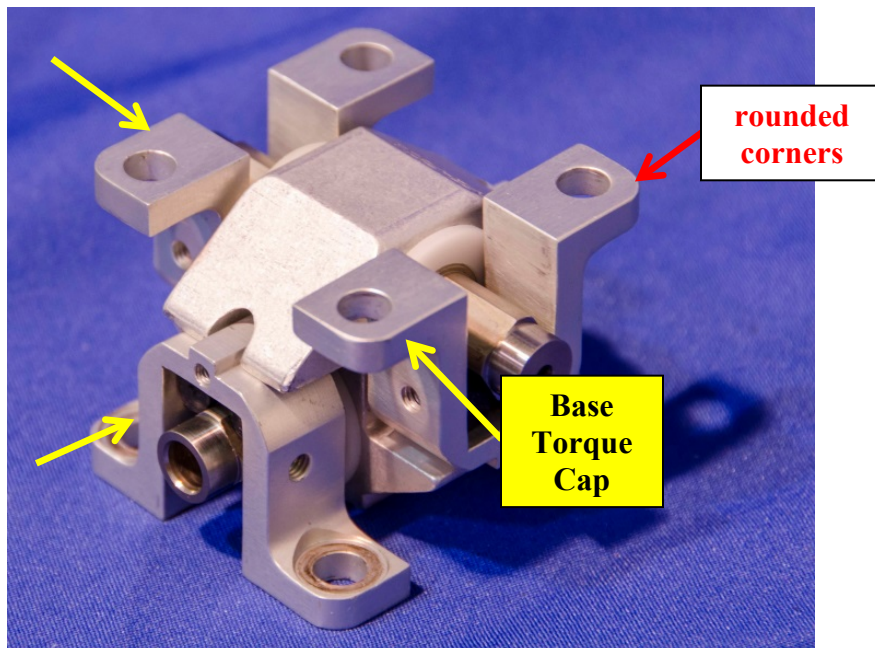

Figure 12-33. Install base torque caps on upper and lower torque shafts
- 12.2.2.18 Install the four Base Torque Caps (472-7522) onto the Upper and Lower Torque Shafts. The rounded corners of the torque cap should face outwards (Figure 12-33).